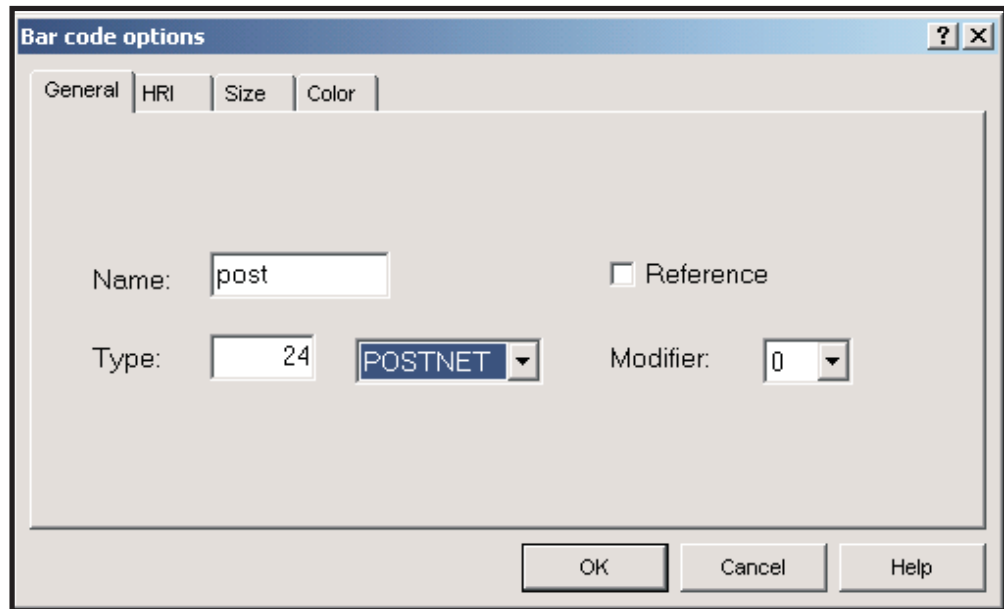

Figure 72. Bar Code Options Dialog
12. To map the zip code as a bar code, select the first five digits of the zip code in the data window. Drag the data onto the **View/Edit** window and place it beneath the address block. Right-click it to open the **Field properties** dialog. Click the **Bar code** button on the **General** page to open the **Bar code options** dialog, as shown in Figure 72 on page 179. Enter a name for this type of bar code (for example, POST), then select POSTNET as the bar code type and click **OK**.